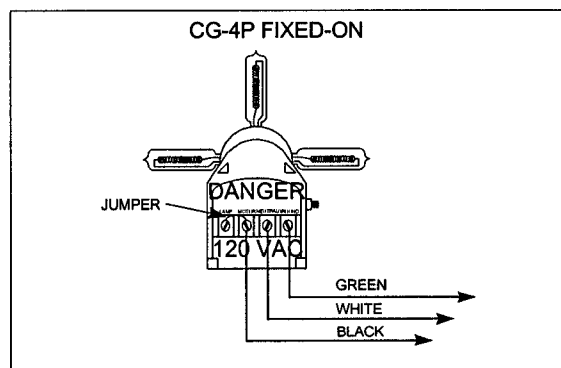

Figure 2-20
- j. Classical lenses with CG-4P lampchangers and continuous fixed burning lights (24 hours a day) shall have insulated spring spade lugs and terminated at the "Black" (120VAC), "White" (Neutral) and "Green" (Ground) terminals of the CG-4P lampchanger, as shown in Figure 2-20.